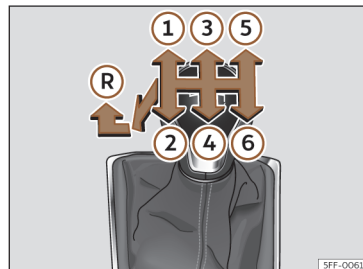

Fig. 144 Diagram of a 6-speed manual gearbox.
Gear positions are indicated on the gear lever >>> **Fig. 144**.
- With the gear lever in neutral, push it down, move it all the way to the left and then forwards to select reverse gear»» Fig. 144 .